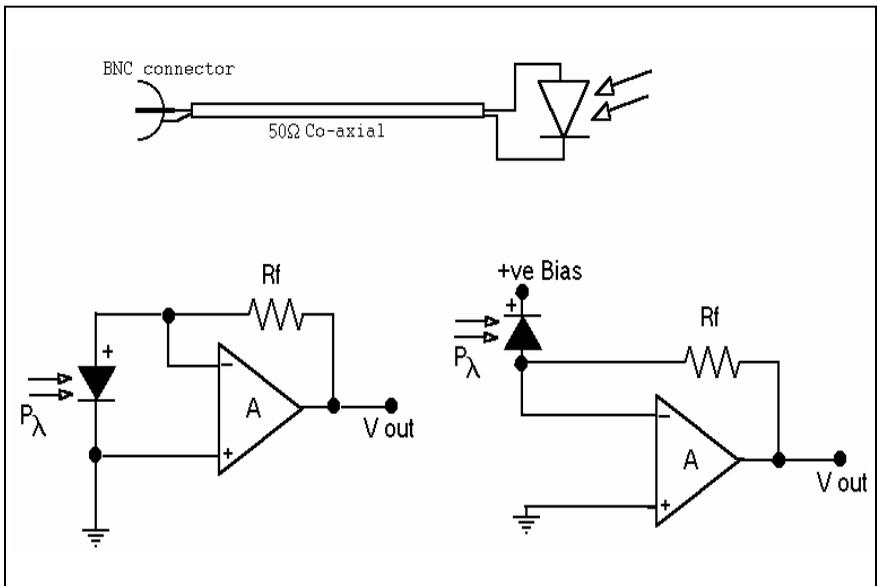

Figure 4
A simple conversion of the detector current output to a voltage ( $V_{out}$ ) is possible with the addition of an operational amplifier (A) and a feedback resistor ( $R_f$ ). Refer to Figure 4.